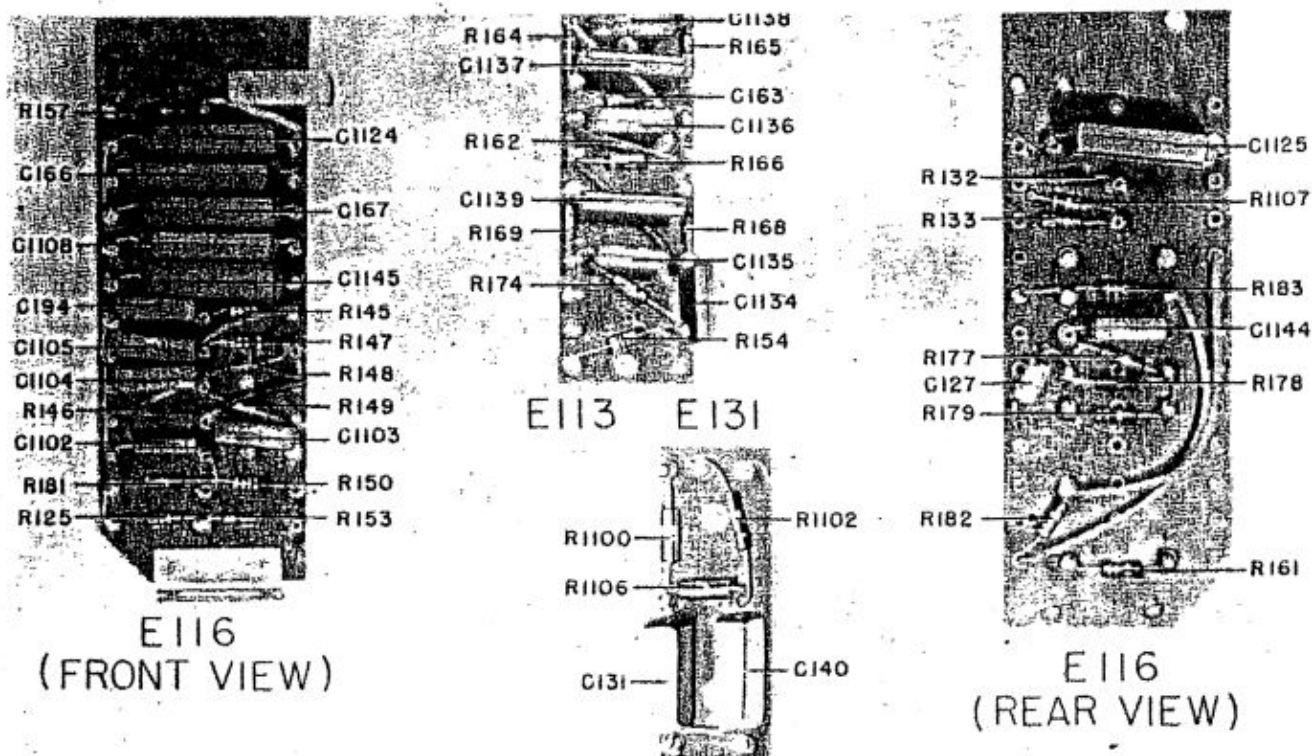

Figure 5-10. Terminal Boards Used in Radio Compass Unit R-101/ARN-6—E-113, E-116, and E-131
(4) With a .25-microfarad capacitor temporarily bridge the following two points: the junction point of R-150, R-181, and C-1102, located on terminal board E-116 (figure 5-10 or 5-11), and either terminal lug of capacitor C-117 or C-118, both of which are located on terminal board E-121 (figure 5-12). The result of this bridge should cause the loop to turn clockwise (in R-101/ARN-6) or counterclockwise (in R-101A/ARN-6) when connected to C-117 and counterclockwise (in R-101/ARN-6) or clockwise (in R-101A/ARN-6) when connected to C-118. If the above checks cause the loop to rotate satisfactorily, check the modulator input circuits. Also check the switches and transformer windings in the antenna transformer assembly L-103. Should no loop rotation result when the above capacitor bridge is applied, proceed as follows.